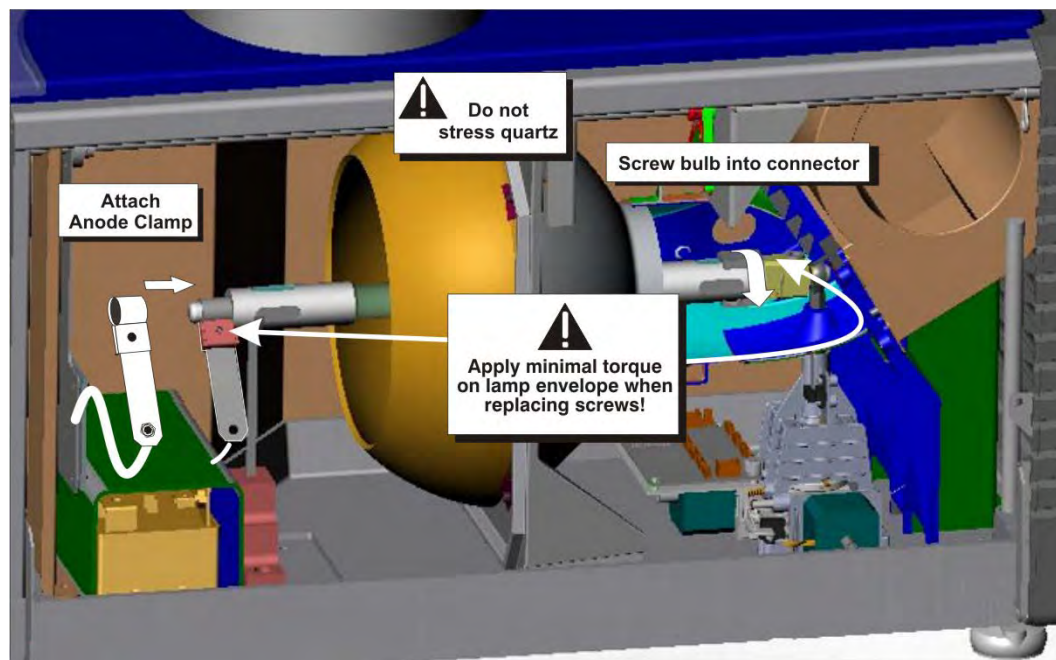

Figure 5-47 Install New Lamp
- d. Insert the threaded cathode (-) end of the lamp into the negative lamp connector nut located in the rear of the lamp compartment. (Figure 5-47) Using both hands, hand-tighten this end into the threaded nut.
- e.  **WARNING! Explosion hazard! DO NOT apply torque to the anode end of the lamp.** Rest the anode (+) end of the lamp on the anode yoke and slip the positive lamp connector over the bulb end. (Figure 5-47) Using the 5mm Allen key, squeeze together with the anode clamp making sure not to place any torque on the lamp quartz tube. **IMPORTANT! For CDXL-30SD lamps, make sure the "flat" part of the anode end of the lamp (if applicable) is facing in the 10 or 2 o'clock position once the lamp finger is installed in the 14mm threads and the clamp screw is tightened. For all other lamp types, keep the "flat" part of the anode end of the lamp facing up.**